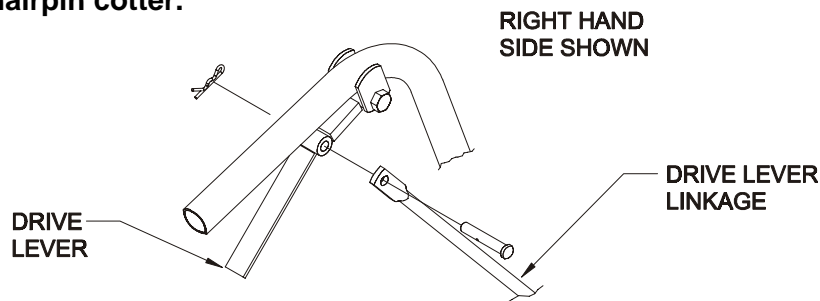

FIG 7
- 3.12 Thread each drive lever linkage into the threaded swivel. (See Figure 6). Connect the upper end of each drive lever linkage to the drive levers. Fasten with a long clevis pin and cotter pin from the bolt bag. Be sure the clevis pin is first inserted through the drive linkage and then through the drive lever from the outside before installing the hairpin cotter (See Figure 7).